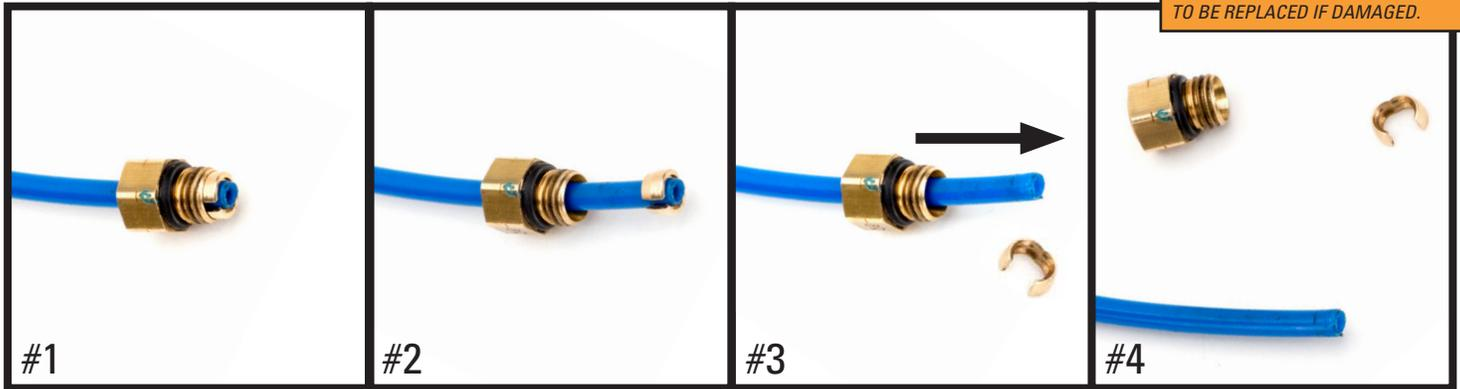

FIGURE 17
6. USING THE SUPPLIED HARDWARE, INSTALL AND TIGHTEN THE TOP MOUNTING NUTS TO MANUFACTURER SPECIFICATION . (FIGURE 17)